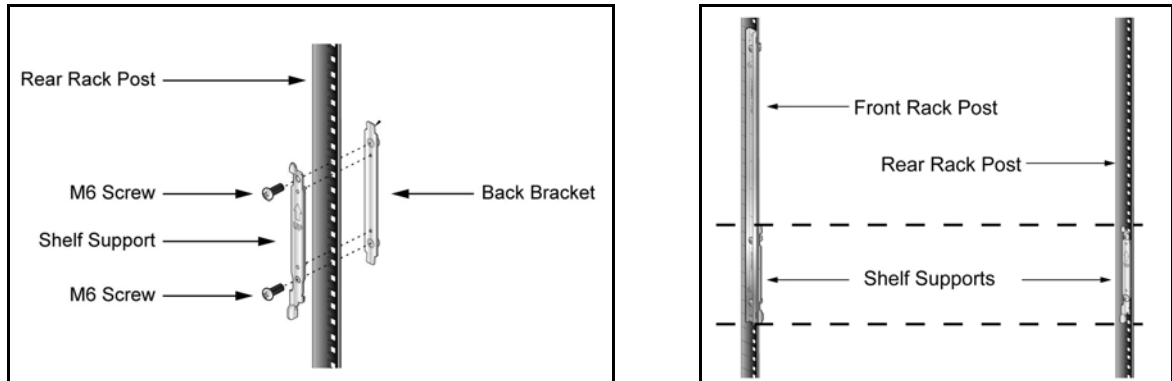

Figure 5: Left Rear Post Assembly and Shelf Support Orientation: Four Post Rack Mount
Step 3 Attach the shelf support and back bracket to the left rear post (Figure 5-left). The shelf support must be assembled at the same vertical level on the front and rear posts (Figure 5-right). An up arrow is printed on the shelf support to indicate its proper orientation.
Unthreaded rack holes: Attach the parts as displayed in Figure 5-left.